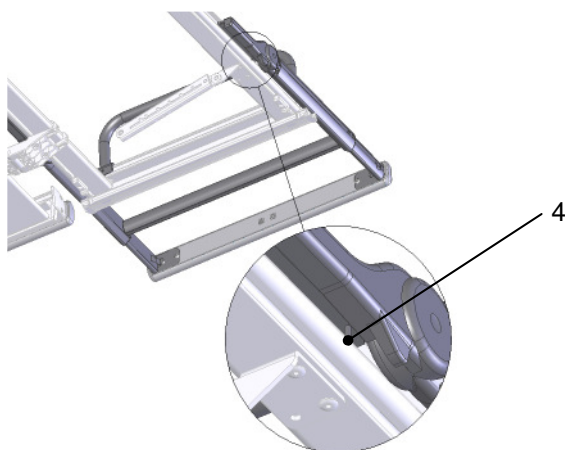

Fig. 2
1. Strike the parallel pin (4) upwards with a flat object (fig. 2). When doing this, make sure that the hinged guide (plastic part) is not damaged.